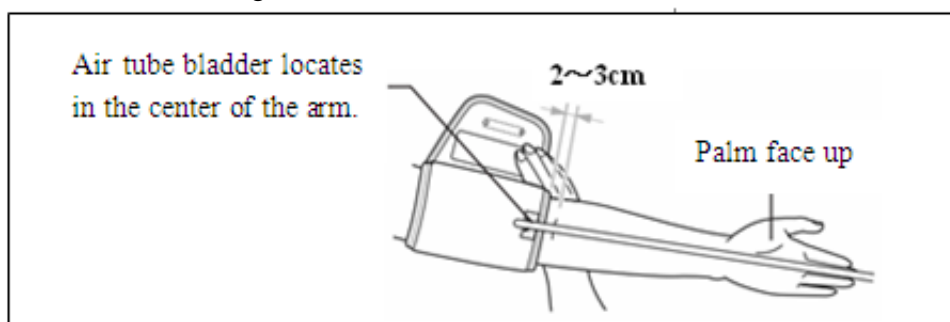

Fig10
- 3) Tighten the cuff around the arm, make sure the cuff is approximately 2~3cm (1~2 inches) above the elbow. (Fig10)